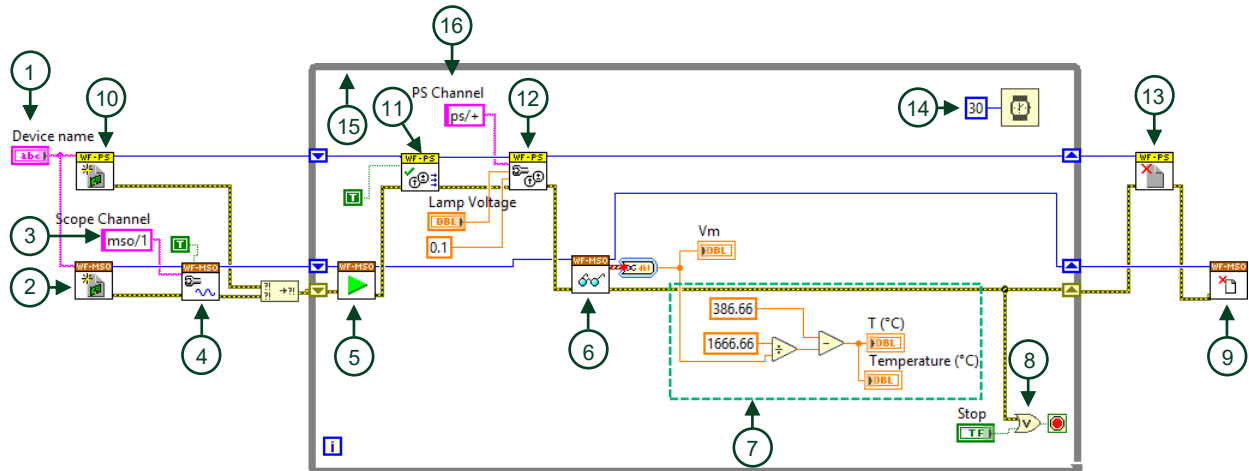
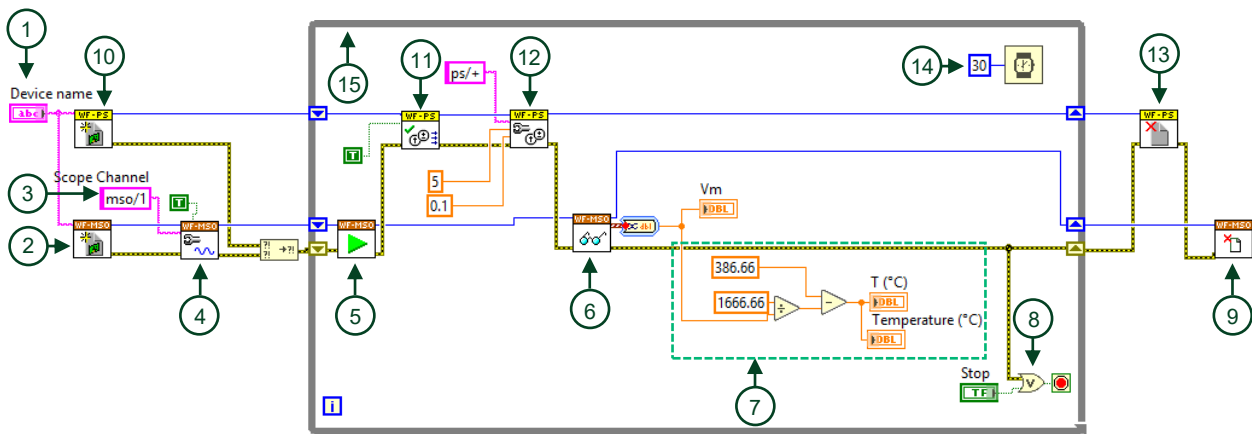

Figure 9.1 VI Block Diagram for ADS and ADS MAX
Figure 9.2. VI Front Panel for AD 3
- 2.1. Modify the block diagram as shown in **Figure 9.1** and **Figure 9.2**.
Figure 9.1 shows the LabVIEW block diagram code applicable only to ADS and ADS Max devices.
Figure 9.2 shows the LabVIEW block diagram code applicable only to the AD 3 device.